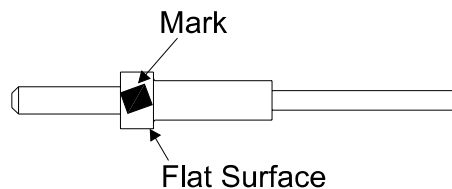

Fig 8
Step 17 Read the power meter value for all four directions of the flat surface of ferrule body. Mark the flat surface of the ferrule body which has the minimum insertion loss. See fig 8.